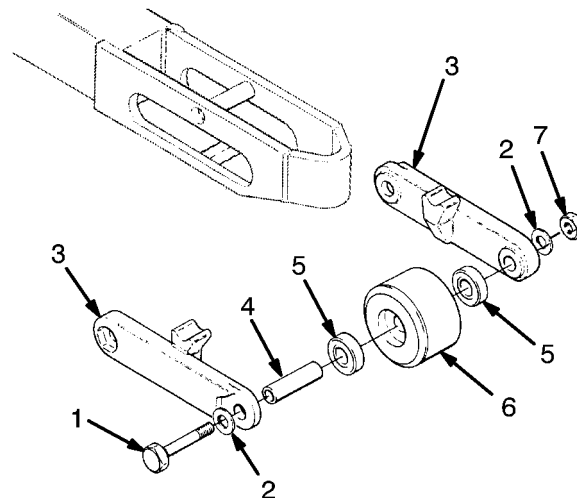

Figure 2-6 -Tandem Load Wheels
1. Pack the new load wheel with the recommended grease listed in the LUBRICATION SCHEDULE, this section. Install the new load wheel, axle shaft, axle sleeve, bearings, washers and axle nut. See Figure 2-6.